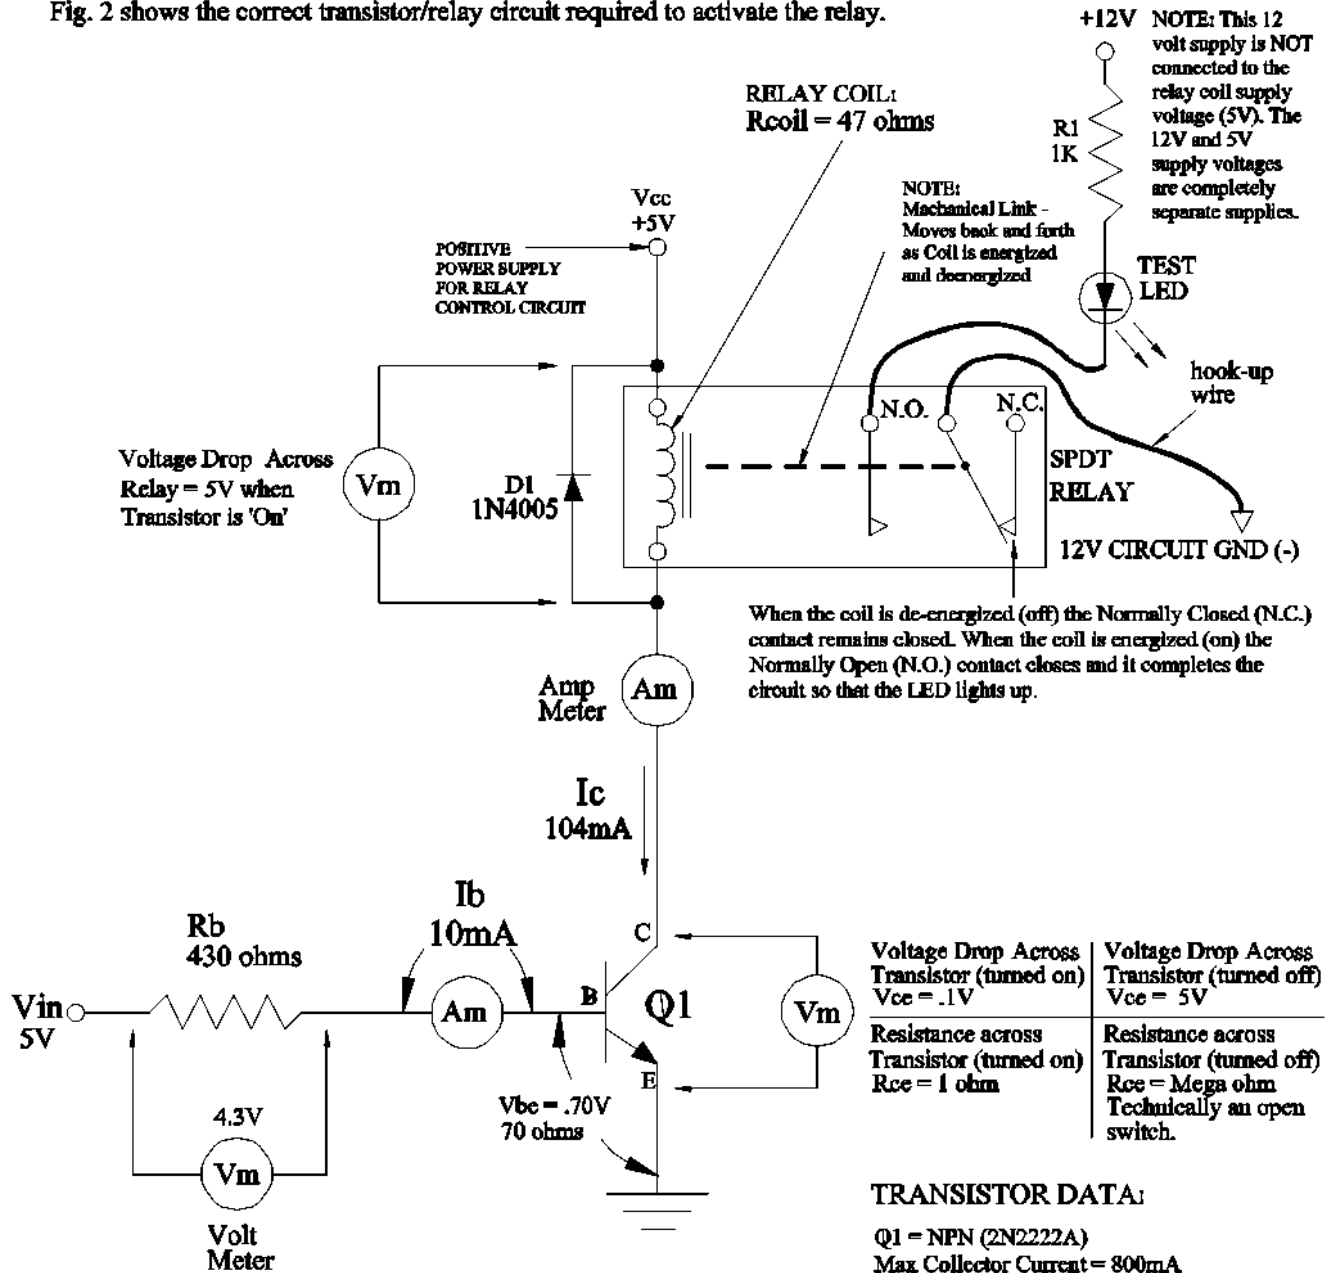

Fig. 2
Now, we need a transistor that can supply 104mA of current to the coil in order to active the relay. Since the 2N2222A transistor can withstand a maximum of 800mA of current, we'll use it for our circuit. Fig. 2 shows one example of a transistor/relay coil circuit. Since we know the current required to energize the coil is 104mA, we can find the transistor's base current (I_b) by dividing 104mA ($I_c(\text{max})$) by $BETA(\text{min})$. Normally $BETA (B)$ is only a factor when you're working with transistor amplifiers. When using a transistor as a switch, gain ($BETA$) has no meaning or use because the transistor switch is only operating in two modes - "Saturation" mode and "Cutoff" mode. In other words, 'gain' is not a factor (not important) in transistor switches because the transistor is either fully on (saturation) or fully off (cutoff). In this example, we only use $BETA(\text{min})$ listed on the datasheet to get us to the "Edge of Saturation" (EOS). Now, to ensure that we put the transistor into a deep saturation, we add an "Overdrive Factor" to the formula. The ODF is an arbitrary number between 2 and 10. See formula below:
Fig. 2 shows the correct transistor/relay circuit required to activate the relay.